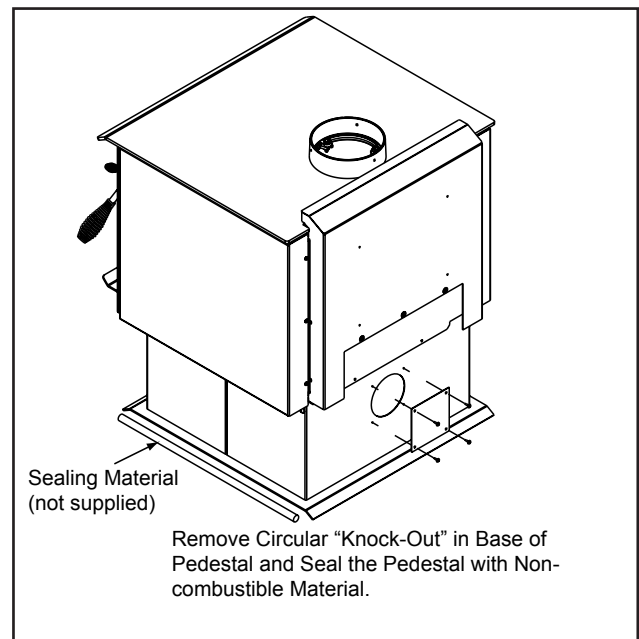

Figure 39.2 - Alternate Floor Installation
1. **Rear:** Remove the access cover on the back of the pedestal and discard. **Figure 39.2.**
If that is the case, follow the instructions for a rear installation install the flex pipe to the rear of the pedestal and remove the circular “Knock-Out” in the base of the the pedestal. You must seal off the pedestal with non-combustible material (not supplied). The goal is to seal the pedestal so no room air can leak into the pedestal and to seal for cold air infiltration. **Figure 39.2.**